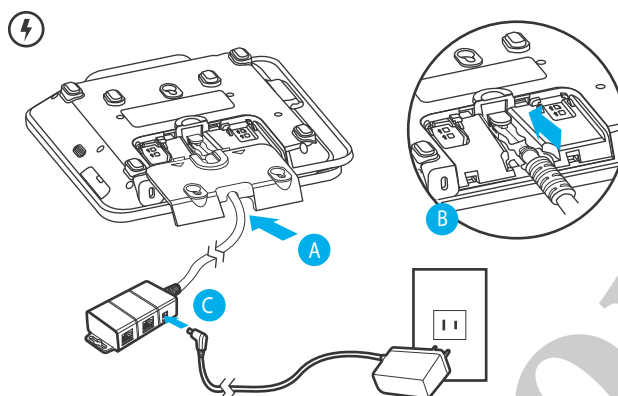

Figure 9 Connecting Base Cable to Device
- 1 Connect the Multiport cable (Example MSC445-010-00-A) to the Multiport at the back of the device, Figure 9 (B).